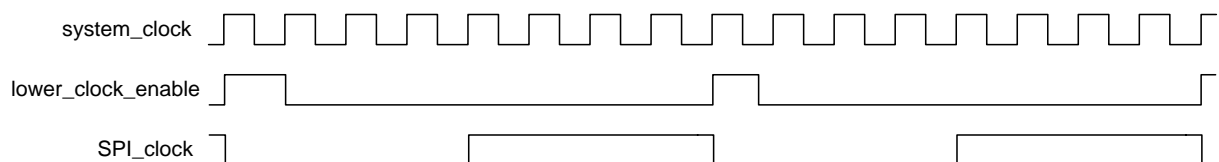

Figure 4 Start with a low SPI clock
- You could start with a low SPI clock signal, *Figure 4*
It might seem simpler to use a SPI clock that starts low though, *Figure 4*. In this case we get a natural flow where we place data on the line at the SPI clock enable signal and then the data will be read by the external device when the rising edge of the SPI clock comes half a period of the SPI clock signal later.